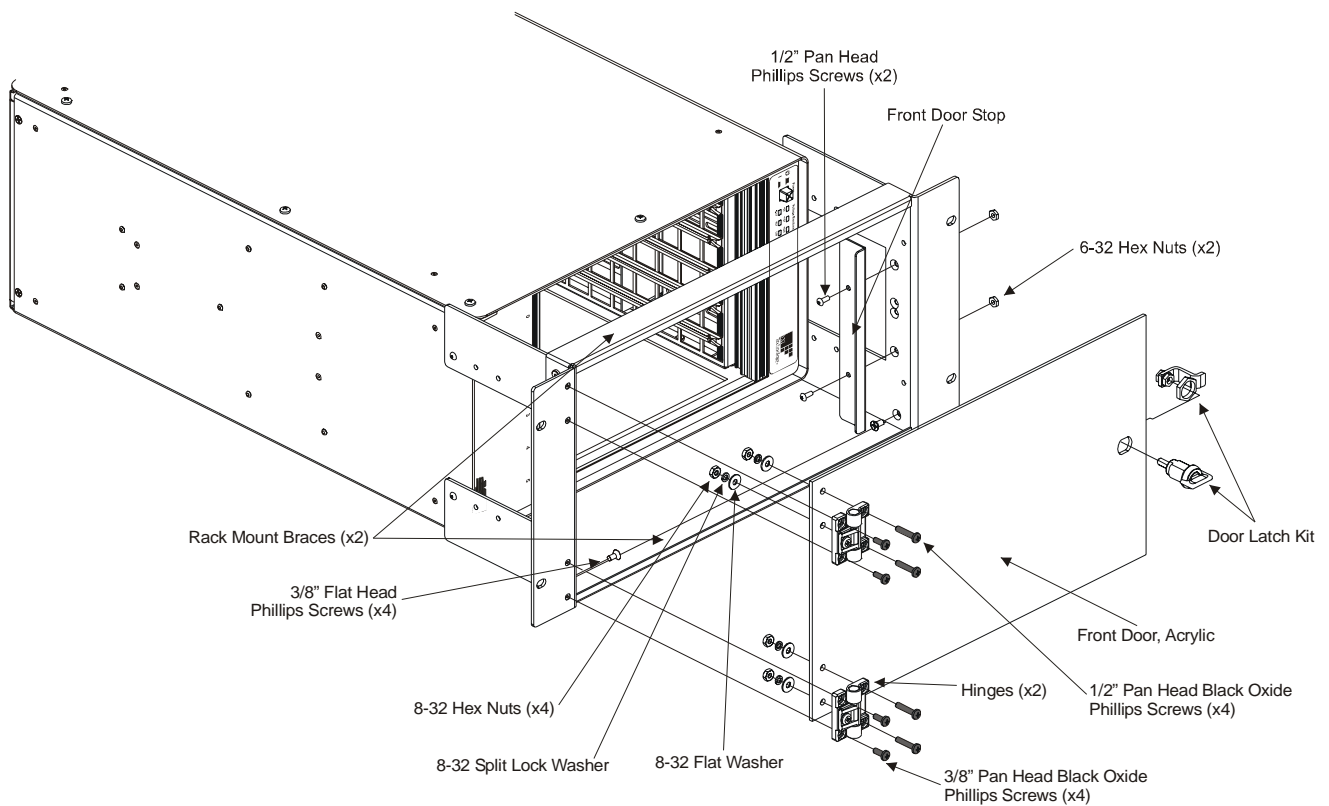

FIGURE 1-7: ACRYLIC RACK DOOR INSTALLATION DIAGRAM
5. Locate the door latch bracket and install it on the rackmount ear opposite the end where the hinges will be installed. Use Figure 1-7 as a reference.